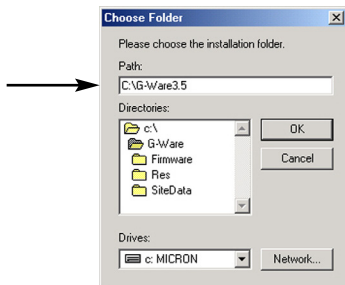

Figure 5.14. Creating a directory for G-Ware 3.5
1. Load G-Ware 3.5 in a unique directory (path), as shown in Figure 5.14. Do not select "Add Icon to Desktop" when you are asked if you want to do so during the installation process.